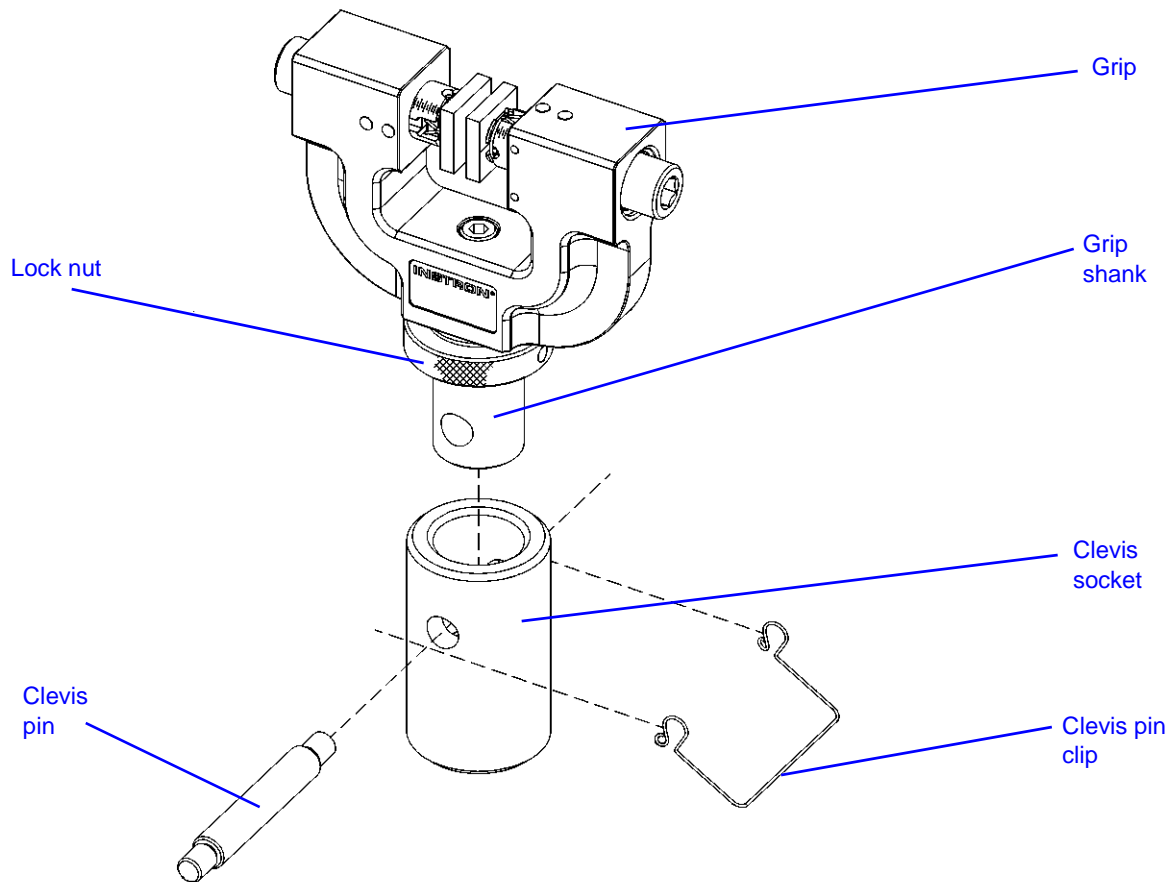

Figure 2-6. Grip with Clevis Pin Coupling
Figure 2-6 on page 2-16 shows a typical grip with clevis pin coupling.
1. For the lower grip, insert the adapter on the grip into the female clevis socket on the load frame base adapter, as shown in Figure 2-6 on page 2-16.